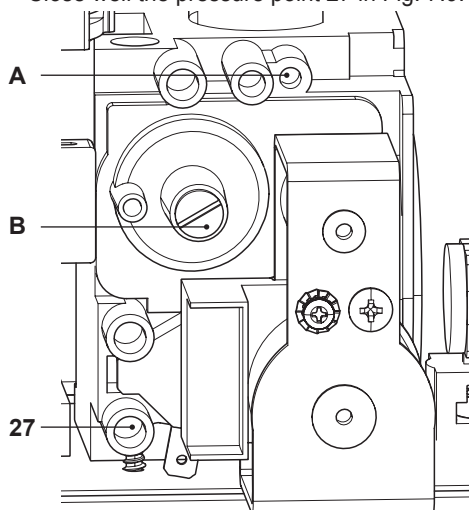

Fig. 7.9
- When the boiler is switched off (out of order), check the supply pressure by using the 27 point in Fig. 7.9 and compare the value read with that reported on the Gas supply pressure table in the "Technical Data" section (pag. 24 Advance Plus 16S ERP, pag. 27 Advance Plus 25S ERP and pag. 30 Advance Plus 30S ERP).
- Close well the pressure point 27 in Fig. 7.9.